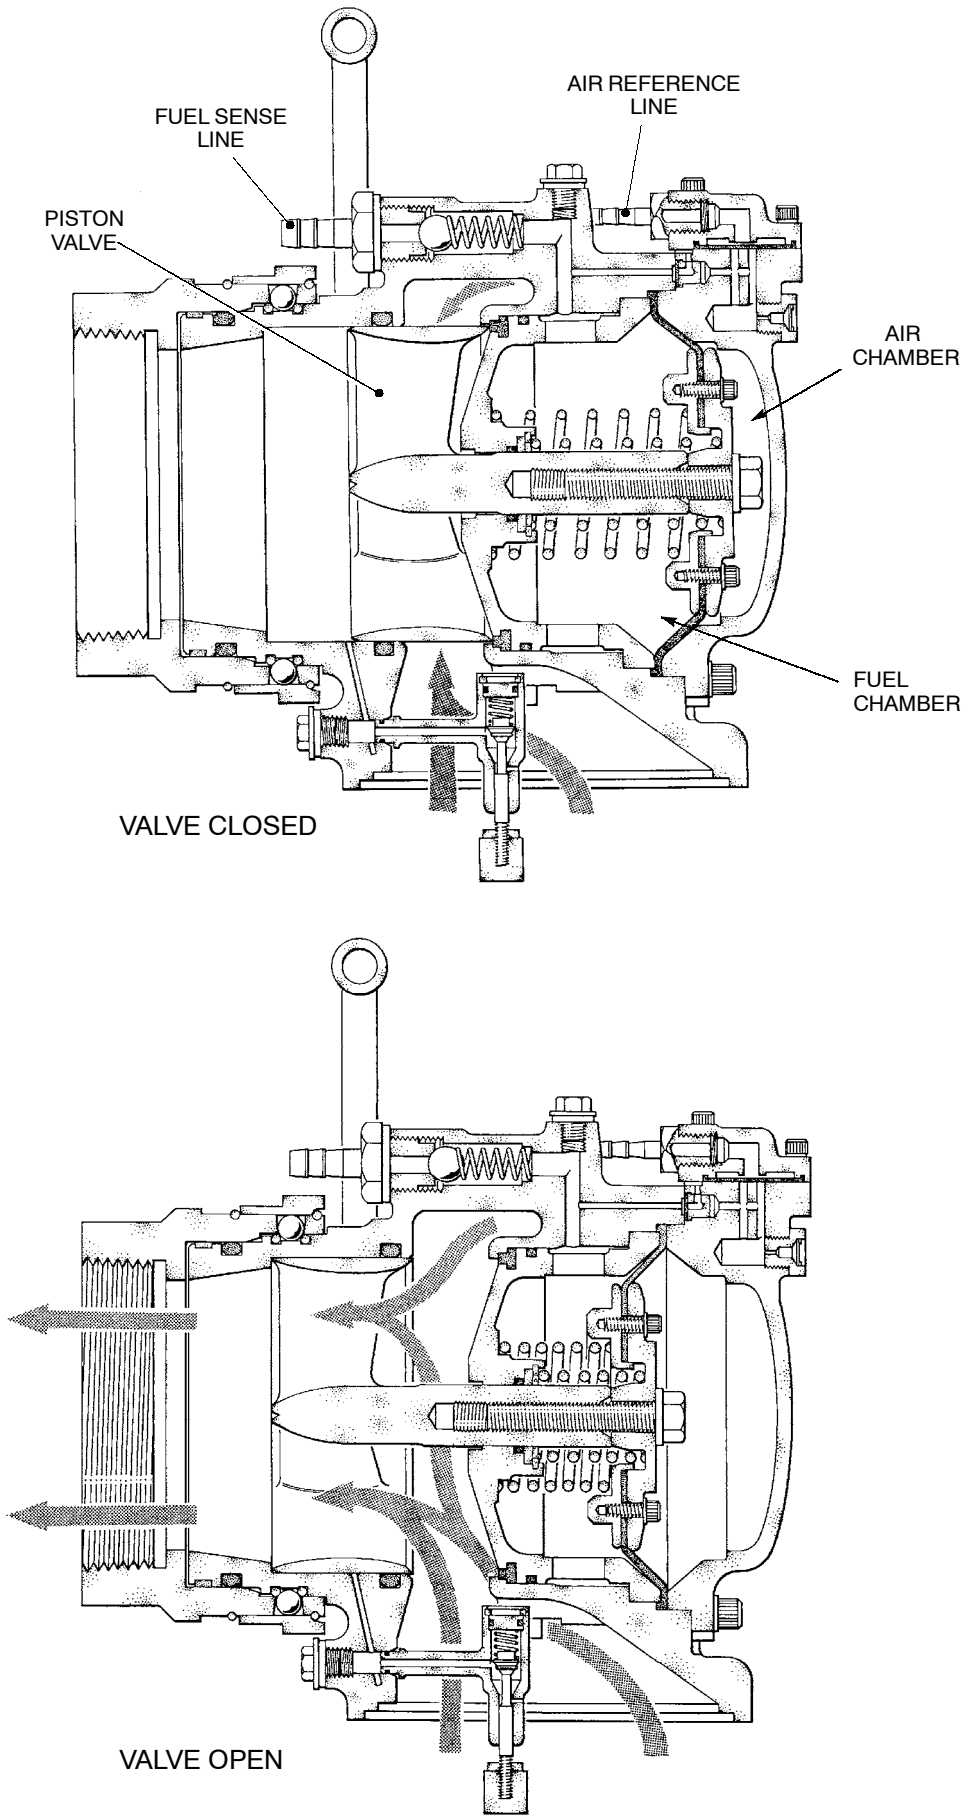

Fig 2.4 Valve operation
#### **4 OPERATION (Fig 2.4)**
- 4.4 Fig 2.4 shows the valve in the fully closed and fully open positions. In practice, under normal operating conditions, the valve will open to approximately the mid stroke position and small changes in pressure will be compensated for by small movements of the piston.